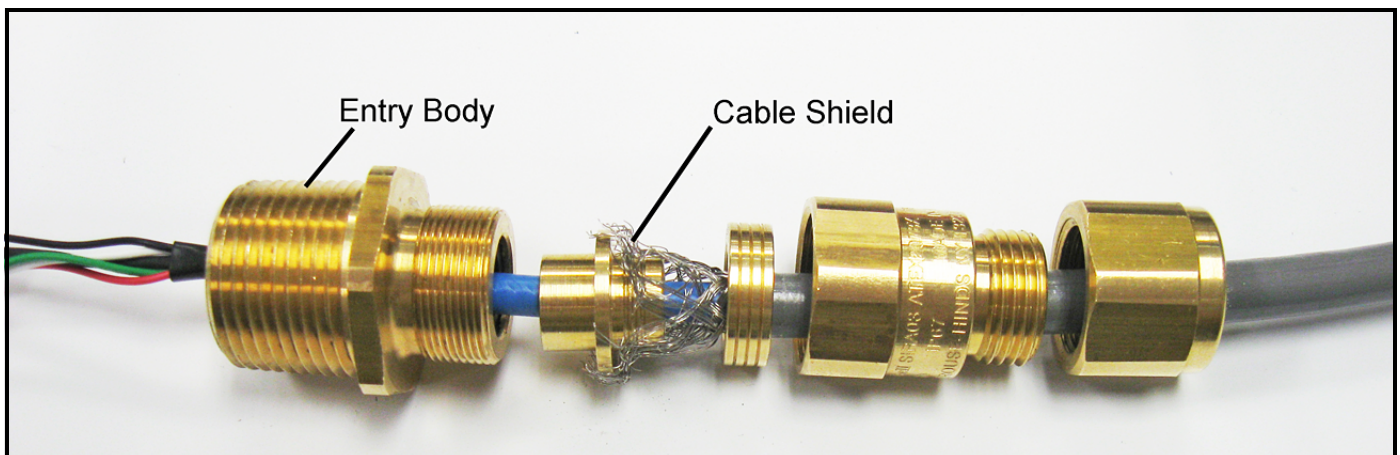

Figure 90: Proper Cable Gland Assembly (Panametrics p/n 419-217)
- d. Fray the braided shield and spread evenly around the cone as shown in *Figure 90* below. Compress the ring to lock the shield.
IMPORTANT: The cable shield must be terminated in the cable gland as shown in *Figure 90* below.
- d.** Fray the braided shield and spread evenly around the cone as shown in Figure 90 on page 105. Compress the ring to lock the shield.
IMPORTANT: *The cable shield must be terminated in the cable gland as shown in Figure 90 on page 105.*